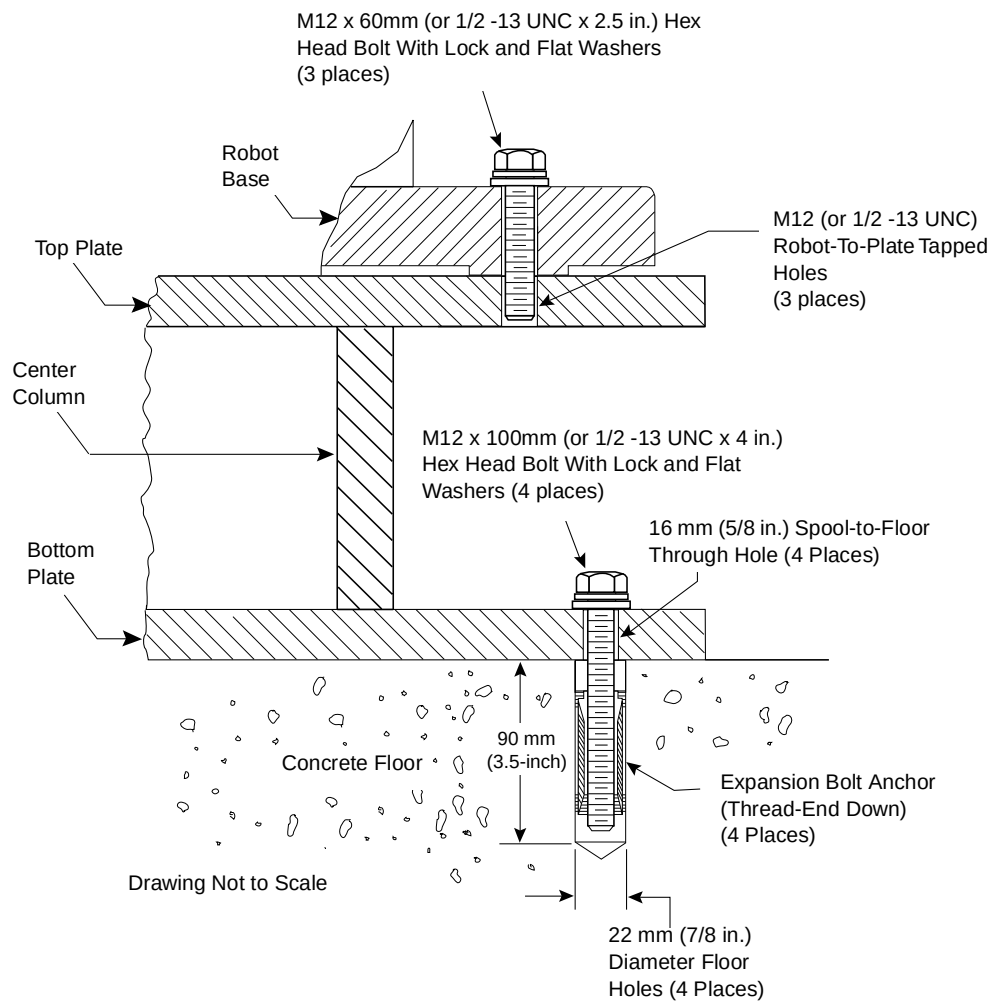

**Figure 3-5. Mounting Spool-to-Floor Installation Detail**
Figure 3-5 shows mounting spool installation details.
The following sequence details the installation of the robot-mounting spool to the floor (see Figure 3-5).
6. Insert an expansion bolt anchor into each of the four holes in the floor. Ensure that the threaded end of each bolt anchor is toward the bottom of each hole, as shown in Figure 3-5.